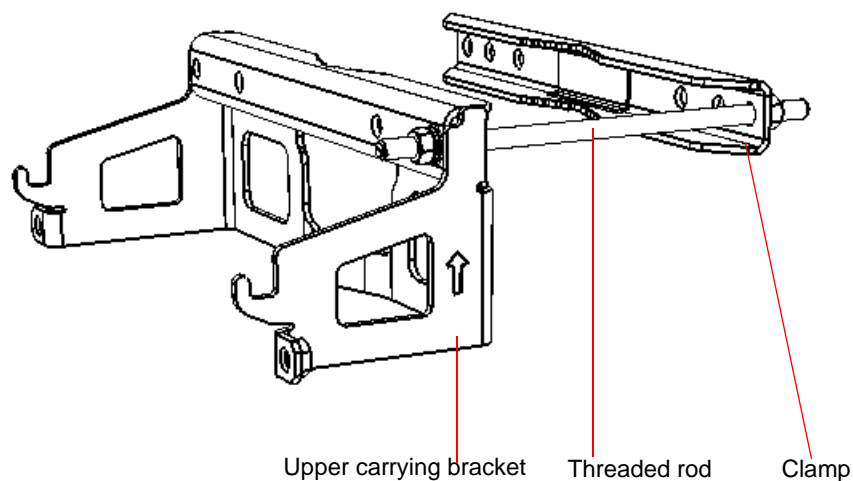

Figure 20: Preparing the Upper Carrying Bracket
- 2 Prepare the upper carrying bracket and the upper clamp for mounting on the pole: insert one threaded rod through the bracket and clamp and fasten the screws, washers and spring washers (Figure 20). Do not over-tighten.